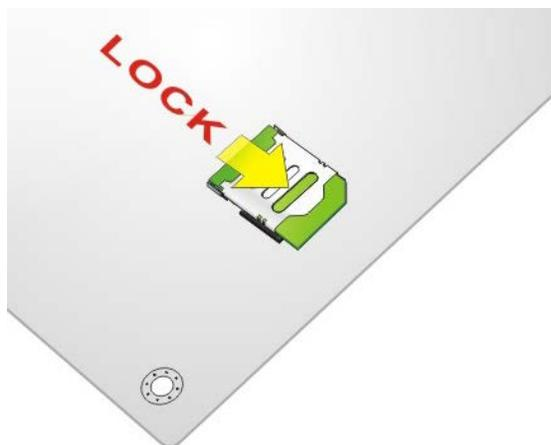

Figure 4-10: Lock SIM Card Slot Cover
Step 4: Close the slot cover and lock it by sliding it in the direction as shown by the arrow in **Figure 4-10**.